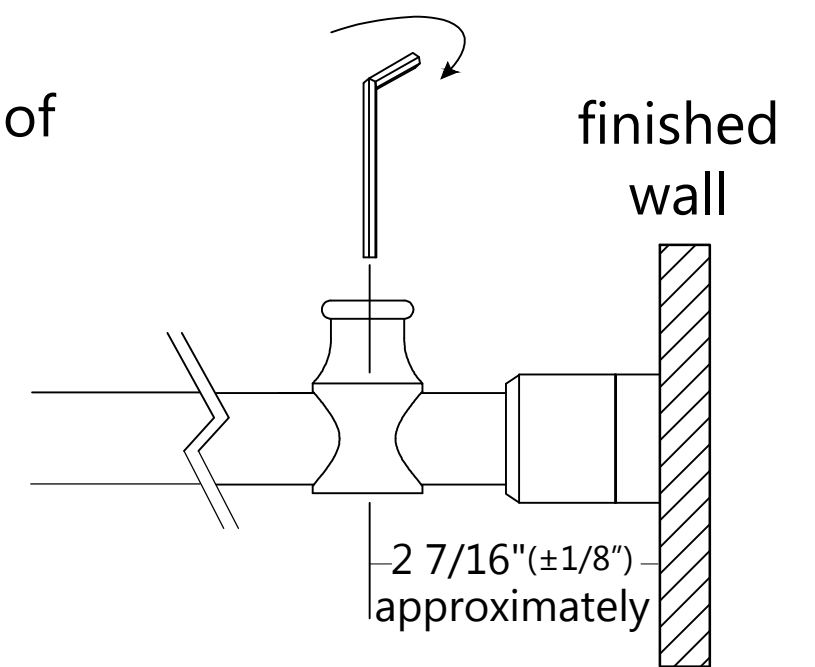

Fig 17a
1、 On one side of **Door Glass (D)**, the center of **Door Stoppers (K)** is about $2\frac{7}{16}$ inches from the finished wall. (**Fig 17a**)